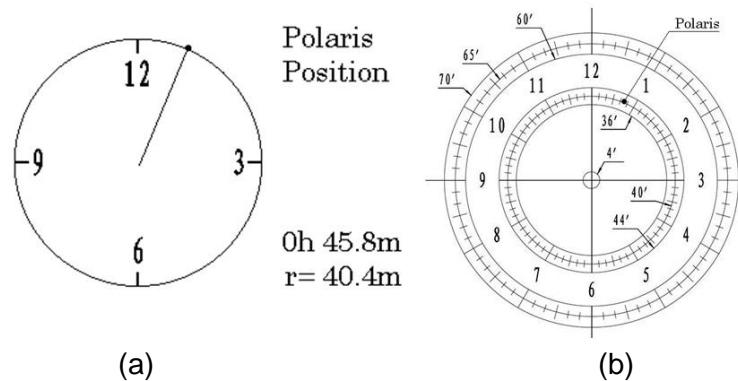

Figure 25. Polaris Position shown on HC (a) and where to put on polar scope reticle (b)
- (6) Look through the polar scope to find the Polaris. Use the Azimuth and Latitude Adjustment Knobs to adjust the mount in both directions and put the Polaris in the same position on the Polar Scope reticle as indicated on the HC display screen. In this case, Polaris will be located at a radius of 41.5 minutes and an angle of 1 hour 26.8 minutes, as shown in Figure 25 (b).